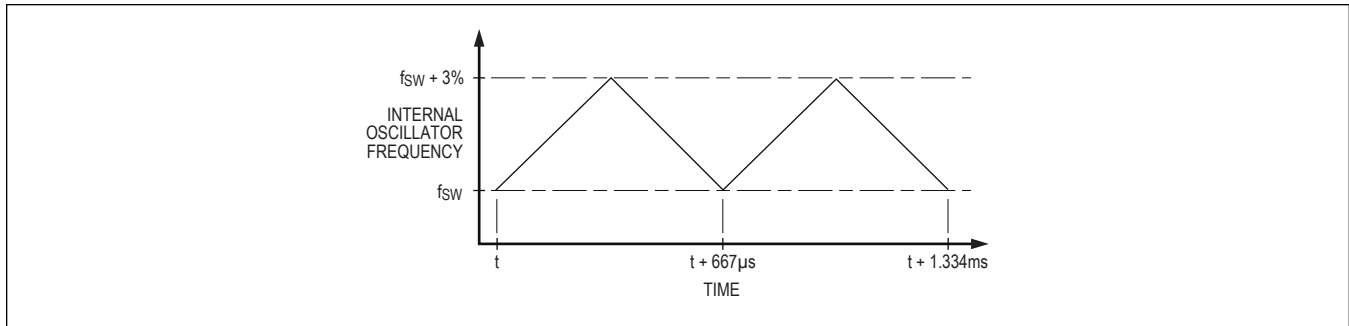

Figure 3. Effect of Spread-Spectrum on Internal Oscillator
The PMICs feature a linear spread-spectrum (SS) operation, which varies the internal operating frequency between  $f_{\text{SW}}$  and  $(f_{\text{SW}} + 3\%)$ . The internal oscillator is frequency modulated at a rate of 1.5kHz with a frequency deviation of 3% (see Figure 3). This function does not apply to an oscillation frequency applied externally through the SYNC pin. Spread spectrum is a factory-selectable option. See the Ordering Information for available options.